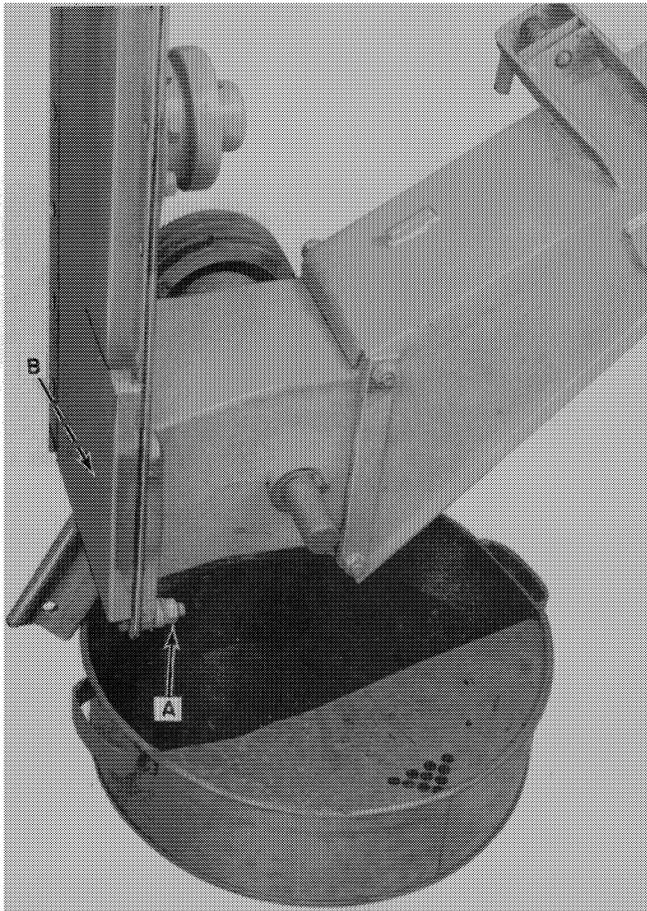

FIGURE 8
4. Install bolts shown at A, Figure 8, to temporarily hold the gear box in place. Hang the cutter bar assembly as shown and remove the drain plug at B and drain the oil.